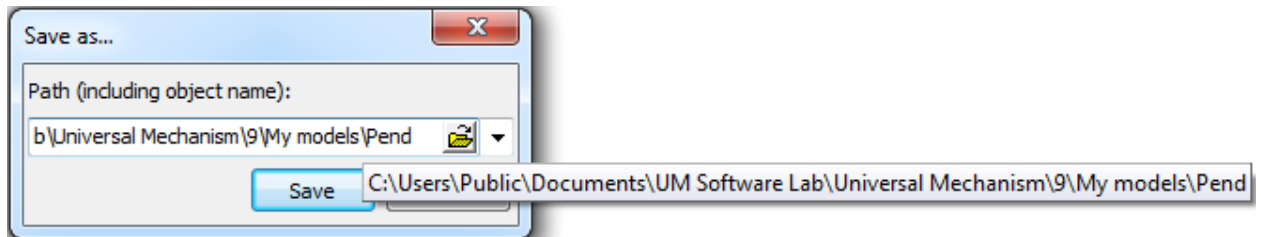

Figure 1.13. Data saving
2. Set `{UM Data}\My models\Pend`, in the way how it is shown in the Figure 1.13.